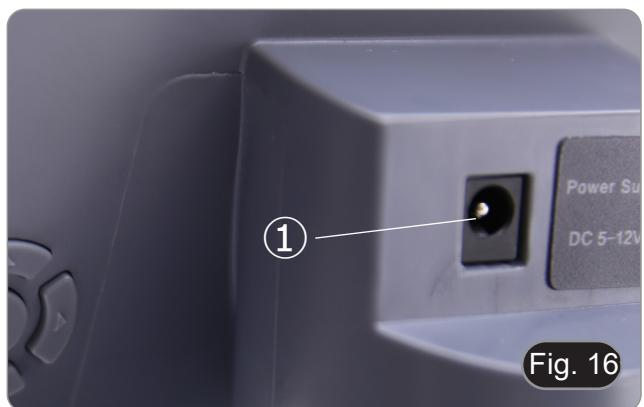

Fig. 16
1. Insert the power adapter into the power socket ① placed on the back side of the camera. (Fig. 16)